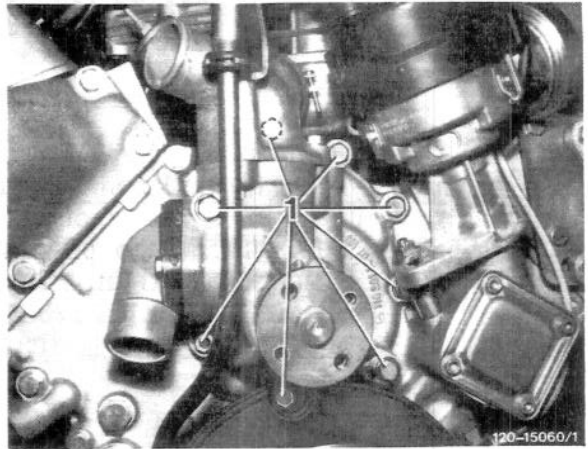

Figure 3
14. Remove water pump (Figure 3).